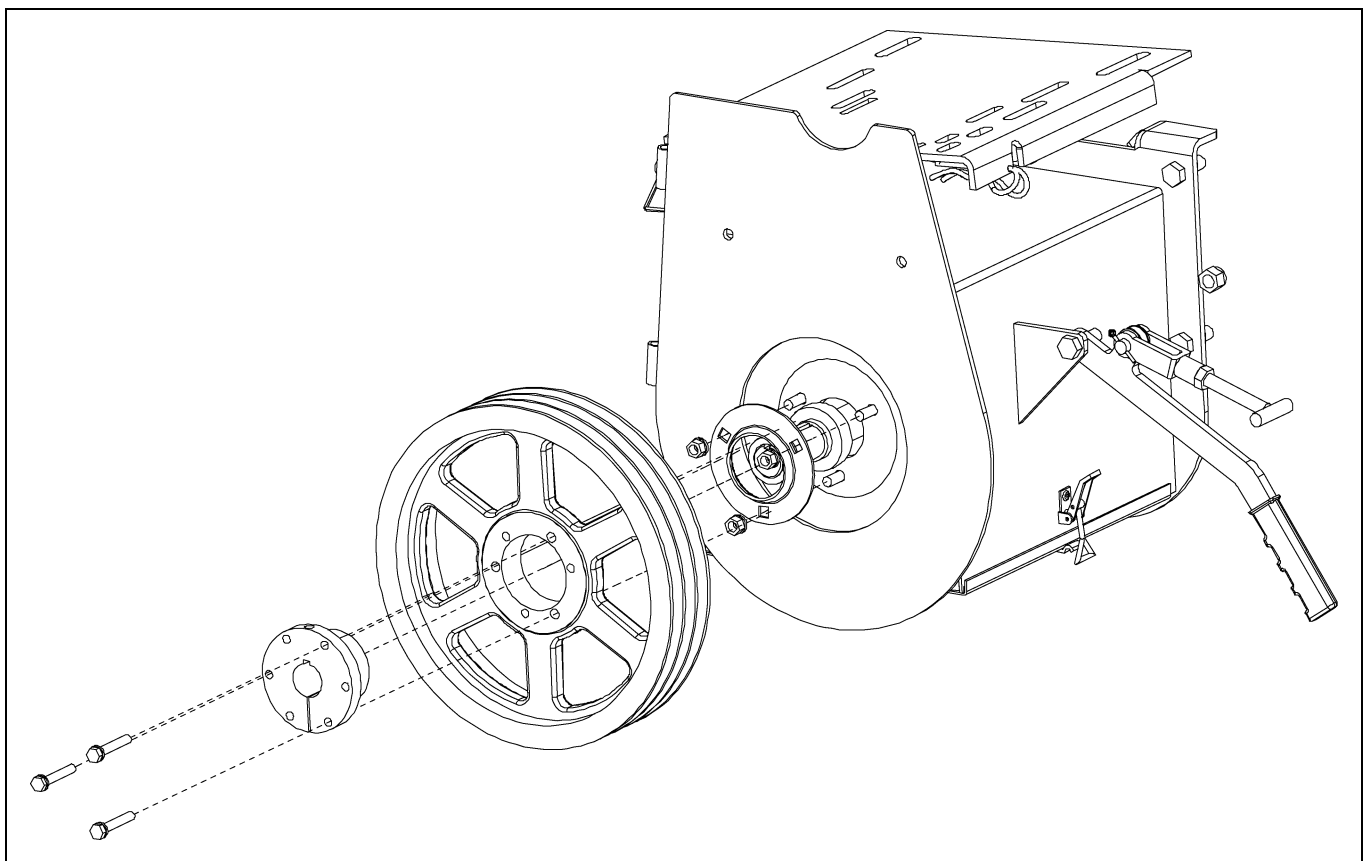

Figure 4AG
5. Tighten bolts alternately and progressively until they are pulled up tight. Tighten to 180 in. lbs. (20 N-m) torque. Do not allow pulley to be drawn in contact with flange of bushing. There should be a gap from 1/8" to 1/4". (See Figure 4AG.)